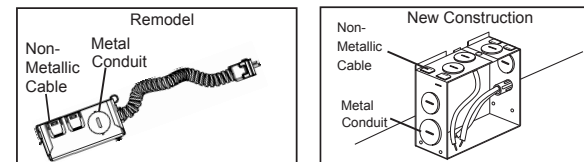

Figure 15
**Step 2.** Remove wiring compartment cover. Remove the appropriate knock-out(s) to accommodate the type of electrical supply being used (Fig. 15):